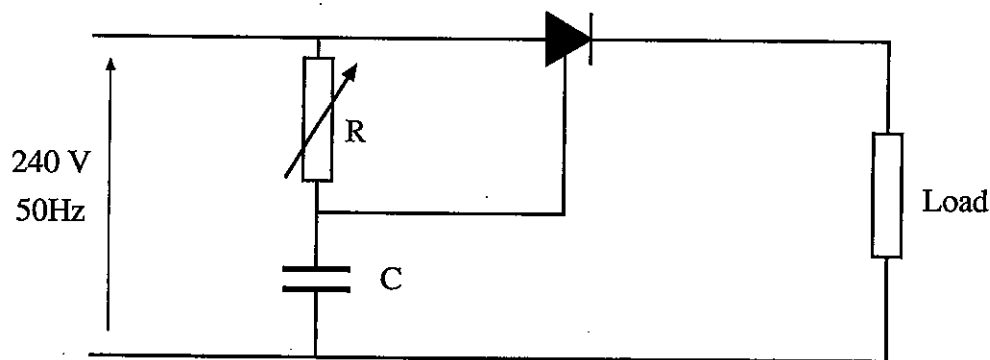

Fig Q8
- (a) the line current drawn by the circuit; (5)
- (b) the power factor of the circuit; (3)
- (c) the components of a delta connected circuit which would draw the same line current but at a leading power factor numerically equal to that found in Q6(b); (6)
- (d) the power dissipated by either circuit. (2)
7. (a) Explain, with the aid of a circuit diagram, the *auto transformer* method of starting a squirrel cage induction motor. (8)
- (b) State two advantages of the auto transformer method of starting over the star delta method of starting. (4)
- (c) State two disadvantages of the auto transformer method of starting. (4)
8. (a) State the conditions necessary to *turn on* and *turn off* a thyristor (silicon controlled rectifier). (4)
- (b) Describe the operation of the circuit shown in Fig Q8. (8)